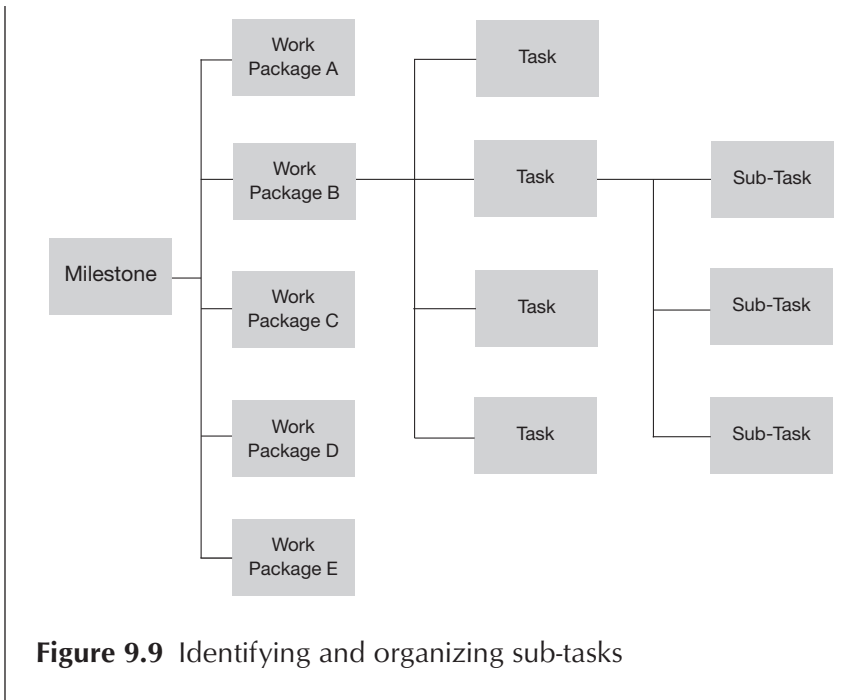

Figure 9.9 Identifying and organizing sub-tasks
- 7. Identify which tasks are actually sub-tasks and rearrange to place these to the right of the task they contribute to, as shown in Figure 9.9.